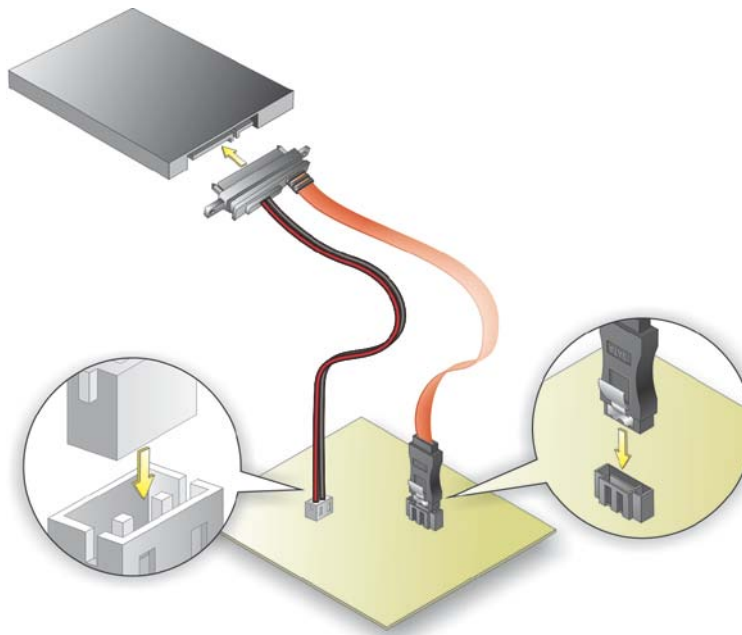

Figure 4-7: SATA Drive Cable Connection
Step 2: Insert the cable connector. Insert the cable connector into the on-board SATA drive connector and the SATA power connector. See **Figure 4-7**.
- Step 3:** **Connect the cable to the SATA disk.** Connect the connector on the other end of the cable to the connector at the back of the SATA drive. See **Figure 4-7**.